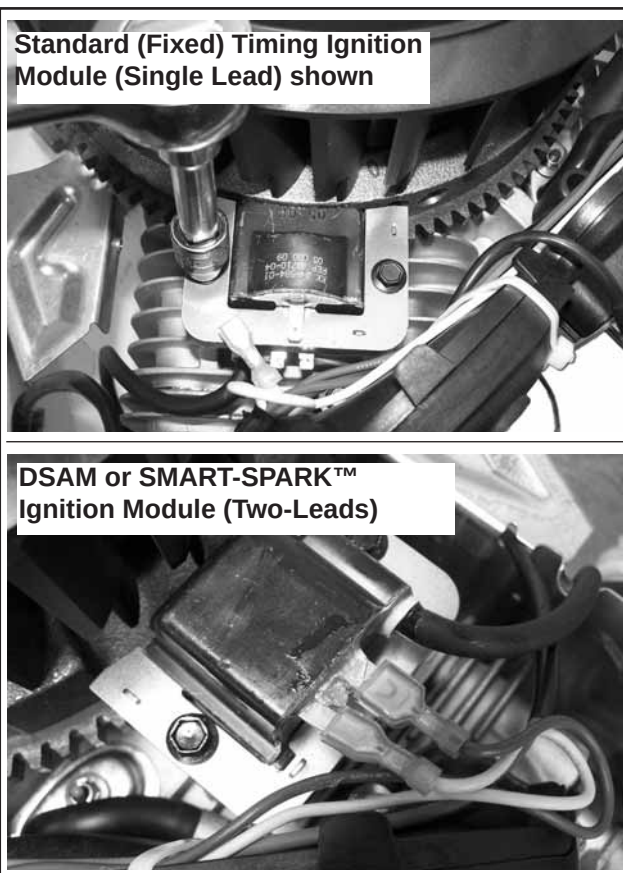

Figure 8-21. Removing Ignition Modules.
2. Disconnect the lead(s) from each ignition module. Fixed Timing Models and DSAI Models have one lead per module and DSAM or SMART-SPARK™ (variable timing) ignition modules have two leads per module. See Figure 8-21.